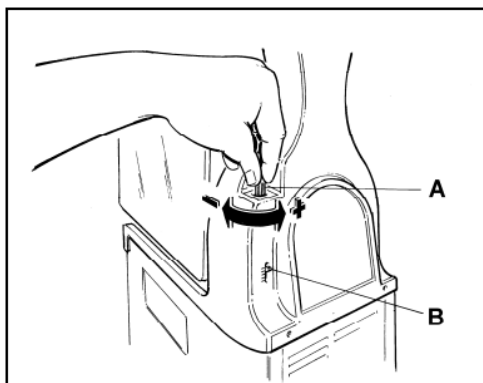

Fig. 13
2. Adjusting the consistency: to alter the consistency of the product, turn the screws located on the back of the machine in the following way: clockwise to make the product less dense, counterclockwise to make the product denser (see figure 13).
3. For the initial install it is recommended to adjust (B) so that it is at $\frac{1}{4}$ from (-). Adjust higher or lower if needed after running the machine for several hours to whatever consistency level you desire.